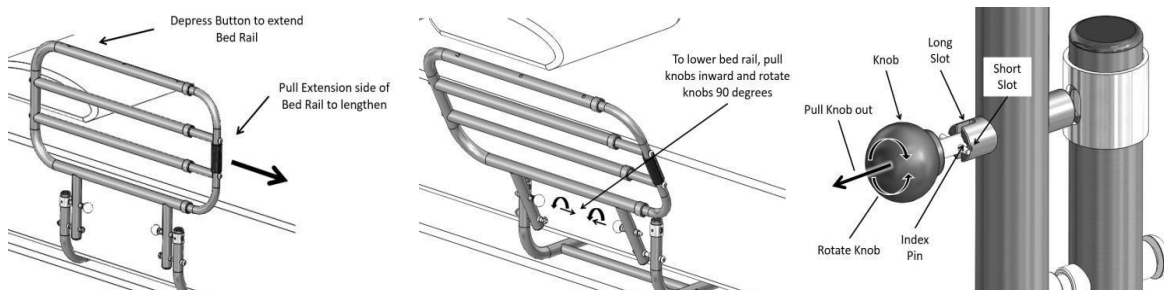

FIGURE 7
6. To extend bed rail, depress button on top of bed rail and pull extension side of bed rail outward. To lower bed rail, pull and rotate Knobs 90 degrees until Index Pin engages the Short Slot, as show below in Figure 7.